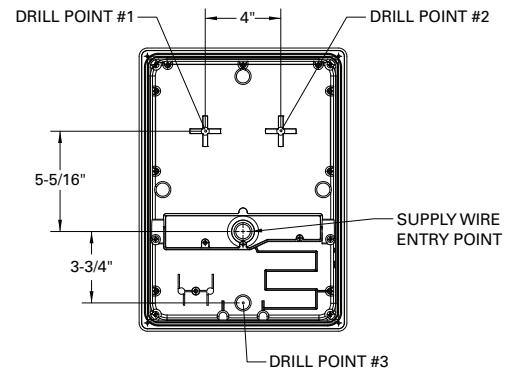

FIG. 5
SURFACE MOUNT [FIG. 5]:
3. Drill through the top side of the casting. See **FIG. 5** for the suggested drill pattern to avoid damage to any internal components to the fixture. Only drill from the inside of the fixture.